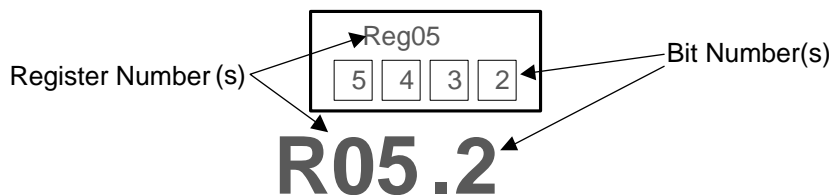

Figure 45. CDCM6208 Register Reference Format
Figure 45 shows the method this document employs to refer to an individual register bit or a grouping of register bits. If a drawing or text references an individual bit, the format is to specify the register number first and the bit number second. The CDCM6208 contains 21 registers that are 16 bits wide. The register addresses and the bit positions both begin with the number zero (0). A period separates the register address and bit address. The first bit in the register file is address 'R0.0' meaning that it is located in Register 0 and is bit position 0. The last bit in the register file is address R31.15 referring to the 16th bit of register address 31 (the 32nd register in the device